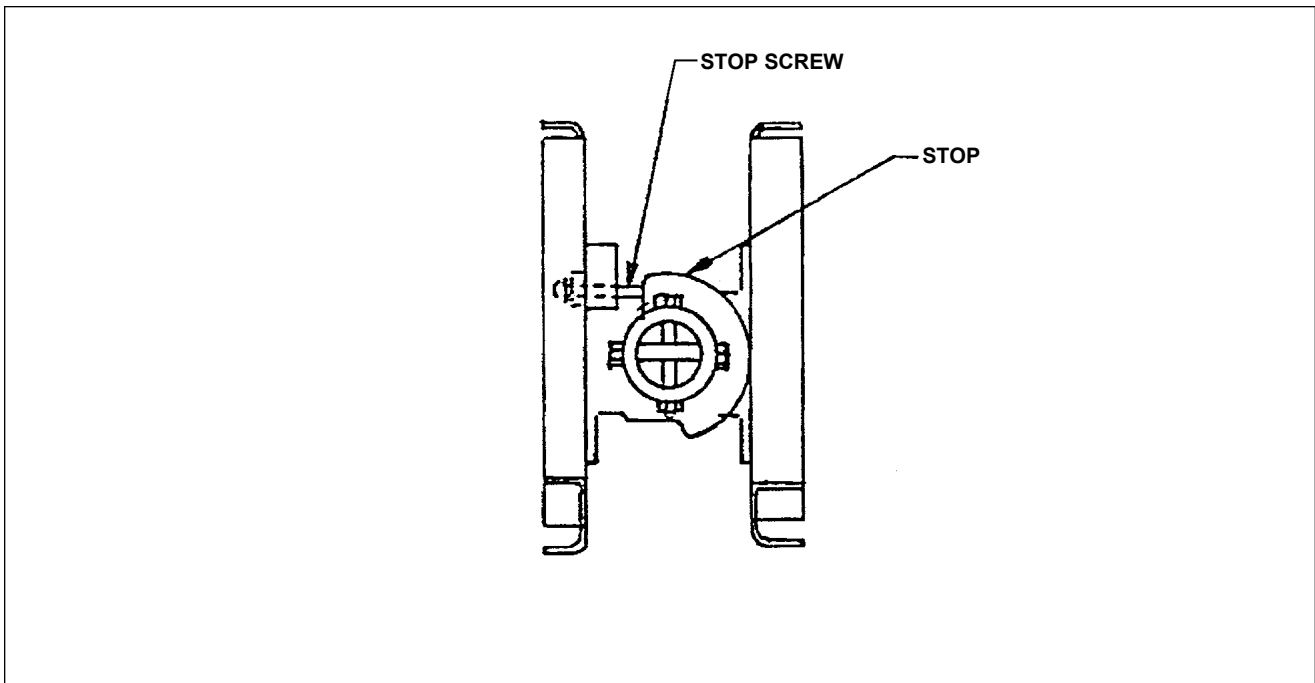

Figure 27-25 Stop Screws Adjustment
11. Adjust the left and right stop screws so that contact is just made with the stop. Tighten the jamb nuts. (Refer to Flap Stop, Figure 27-25.)